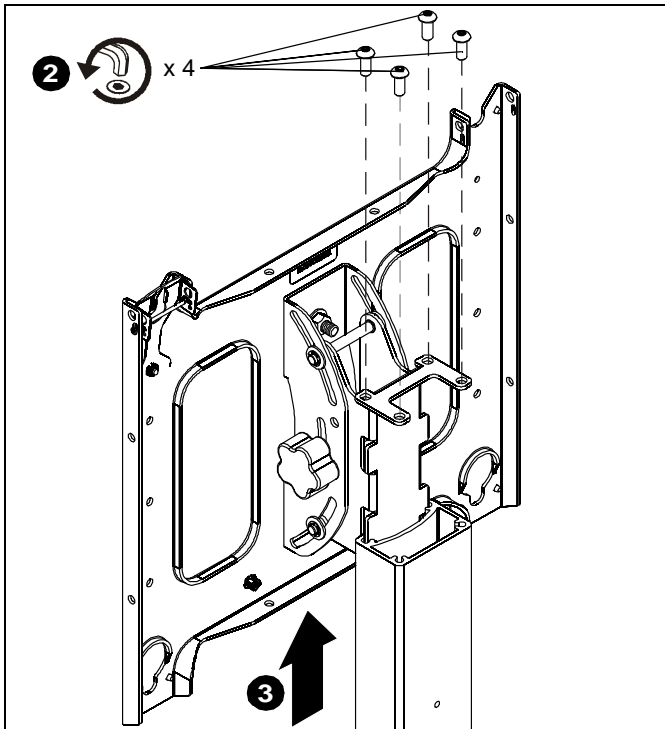

Figure 1
2. Remove four button head screws from faceplate. (See Figure 1)
3. Remove faceplate from column assembly. (See Figure 1)